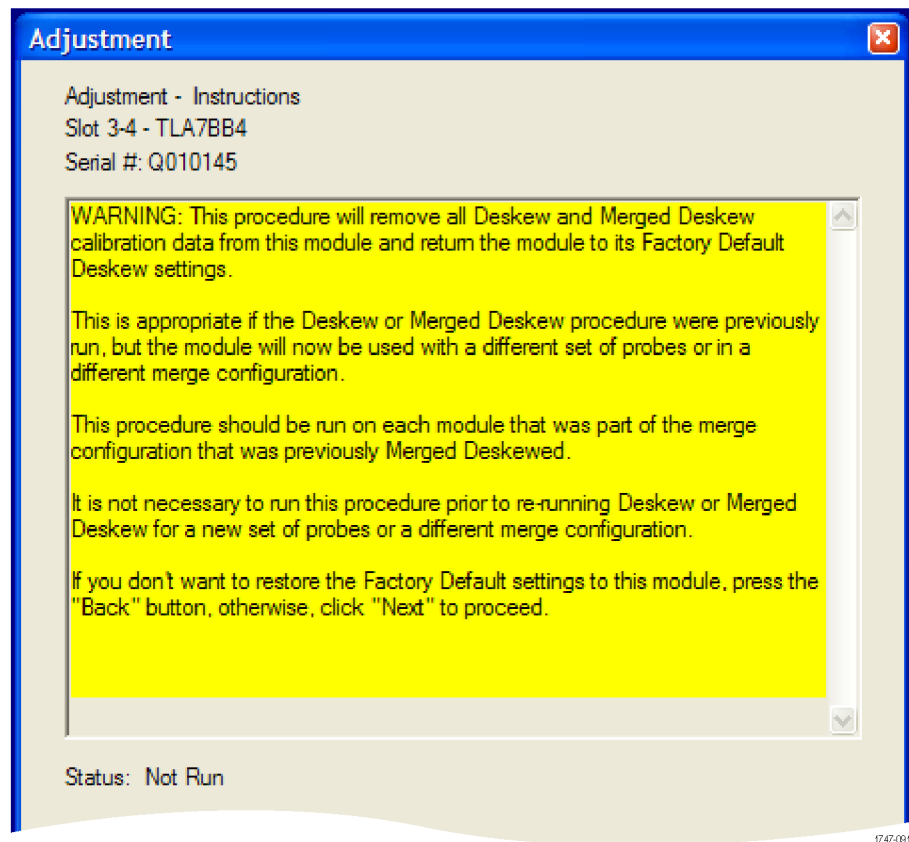

Figure 53: Deskew procedure: Restore Factory Default instructions
2. Click the Next button and note the instructions in the dialog box. (See Figure 53.)